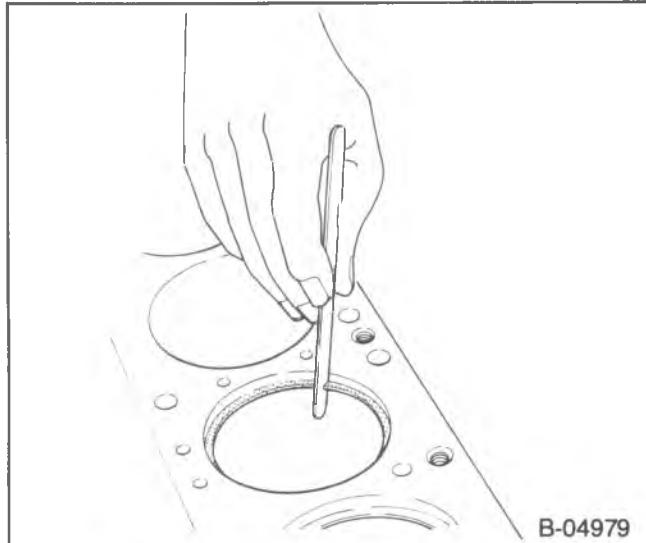

Figure 16—Measuring Ring End Gap
3. Measure the space or gap between the ends of the ring with a feeler gage (figure 16).